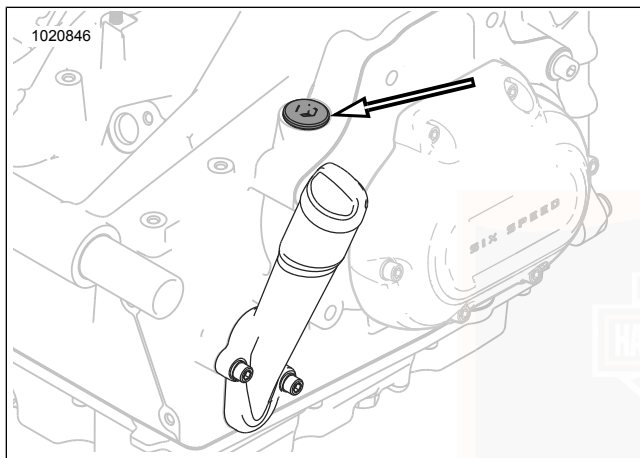

Figure 57. Transmission Filler Plug/Dipstick Location
3. See Figure 57. Remove transmission filler plug/dipstick. Wipe dipstick clean.
1. See Figure 57. Remove transmission filler plug/dipstick.